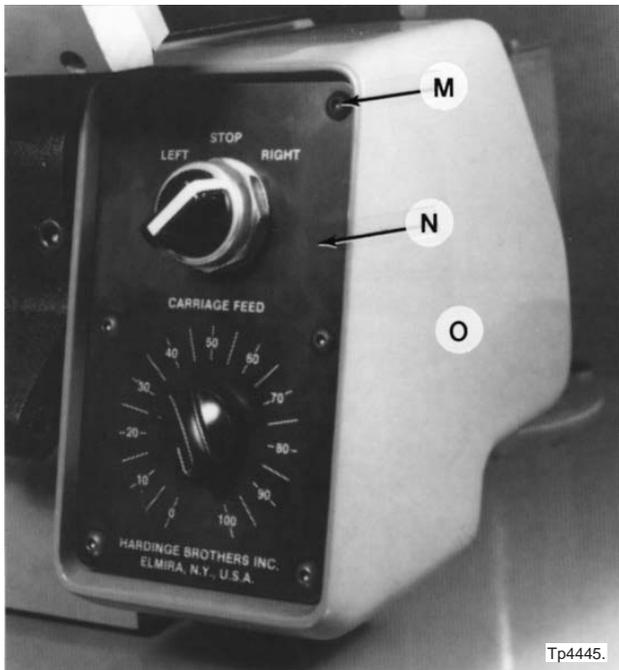

Figure 3.39 - Power Feed Control Box
4. Remove six screws “M”, Figure 3.39, and set power feed panel “N” out of control box “O”.
18. Mount power feed control panel "N", Figure 3.39, in control box "O" using six screws "M".